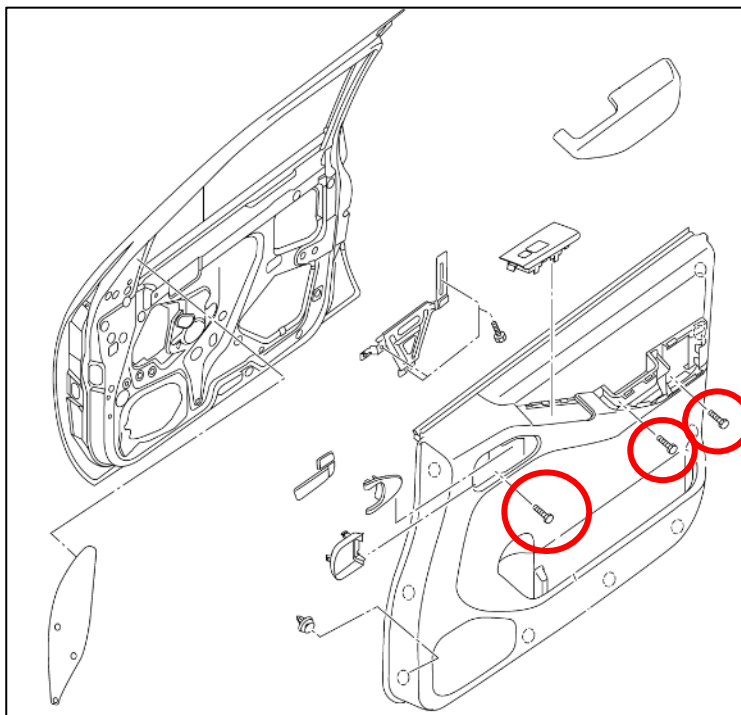

Figure 78
6. Remove the (3) three bolts securing the Door Panel to the Door. *Figure 78.*